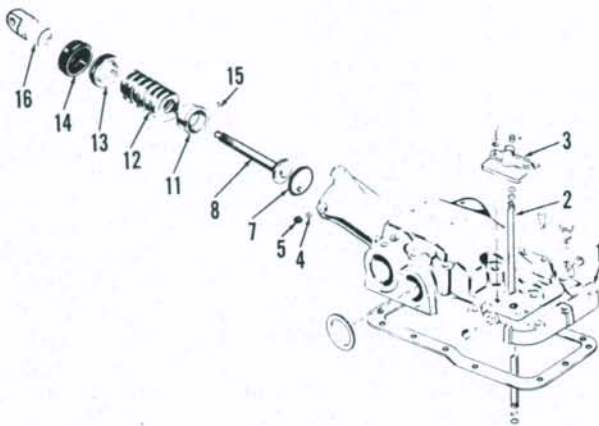

Fig. 280—Exploded view of master control spring typical of all models.
**216. OVERHAUL.** Refer to Figs. 280, 281 and 282 for exploded view of lift cover and linkage. Lift arms (23 and 28—Fig. 281), rockshaft arm (26) and rockshaft (27) all have master splines for correct assembly. Rockshaft bushings (25) are slip fit in lift cover bores.
To disassemble, loosen set screw (5—Fig. 280) and unscrew adjusting nut (13). Withdraw master control spring (12) assembly and disc (7) from lift cover.